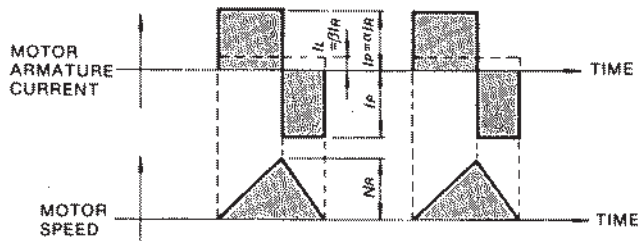

Fig. 4.4 Timing Chart of Motor Armature Current and Speed
- When the motor remains at standstill between cycles of acceleration and deceleration without continuous rated speed running (Fig. 4.4).
The timing chart of the motor armature current and speed is as shown in Fig.4.4. The allowable frequency of operation "n" can be calculated as follows: